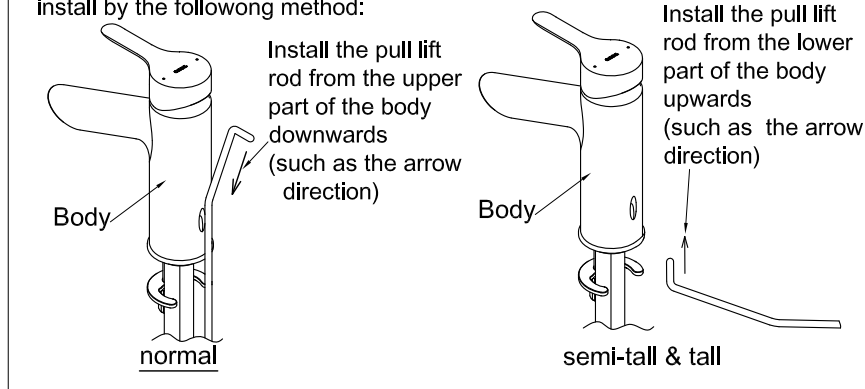

Figure 2 (Pull lift rod installation)
(2) Install the pull lift rod onto the body with the mounting method as shown in Figure 2.
(3) Adjust the direction of the body to make the front face forward; then fix the faucet onto the wash basin using the horseshoe gasket, fixing nut and spring gasket from the lower part of the wash basin.
(4) Connect the pressure-resistant hose with a red line into the hot water supply pipe and connect the pressure-resistant hose with a blue line into the cold water supply pipe.